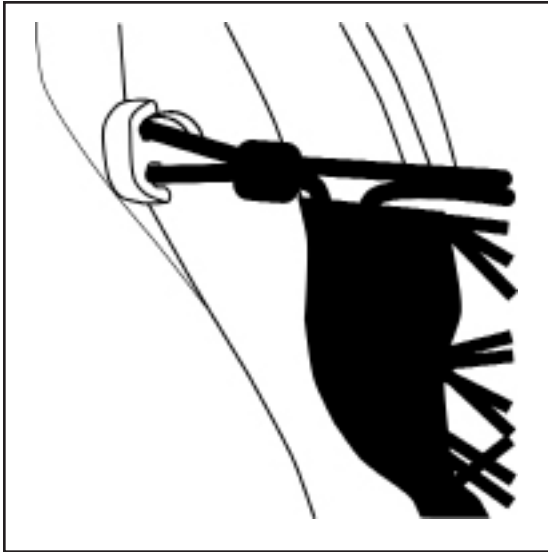
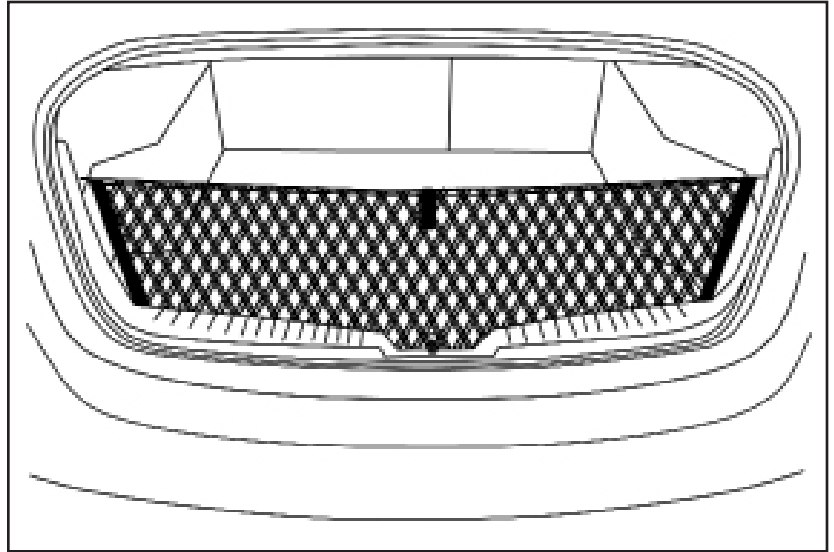

Fig. 11A
Fig. 11
22. Install the cargo net by pulling each corner bungee loop around T-Anchors. (Fig. 11A) Ensure the cargo net opening is in the up position and the pull handle is facing rearward. (Fig. 11)